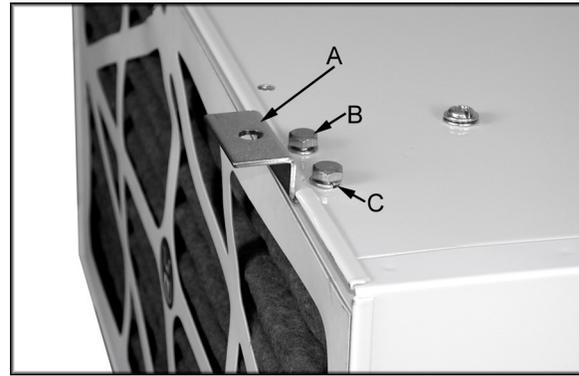

Figure 2
2. Attach the bracket (A, Fig. 2) with two hex cap screws (B, Fig. 2) and two lock washers (C, Fig. 2).